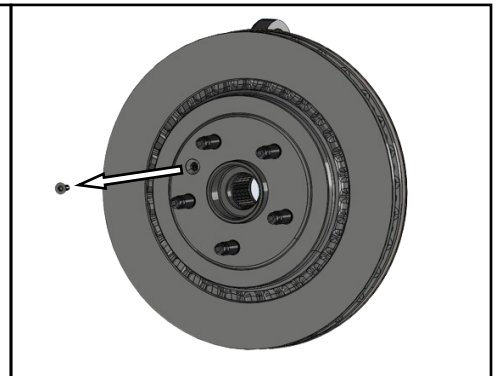

FIGURE 3. REMOVAL OF BRAKE ROTOR RETAINING SCREW
5. Remove the flat head socket cap screw retaining the existing rotor to the hub (Figure 3). These will **not** be re-used to secure the new ES+ rotors to the hub.